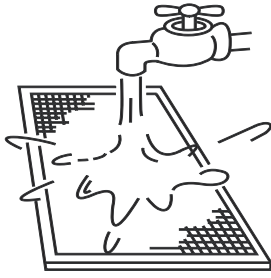

Figure 12.4
- The air intake side should face down when using clean water. (Refer to Figure 12.4)